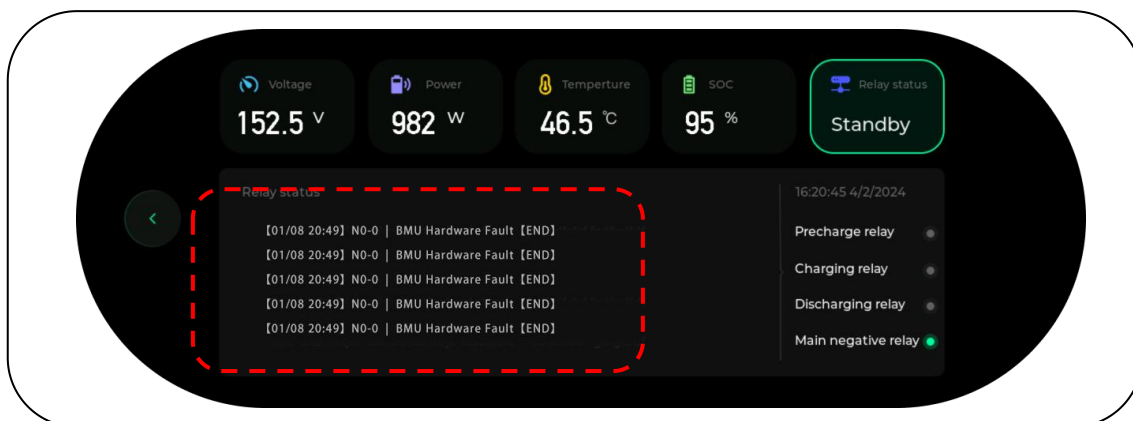

Figure 62 Alarm Options Screen Details
1) Touch the "Alarm" option in the menu bar, the display is shown in Figure 62. This feature displays current system faults and also allows you to read and view problems that have occurred in the recent operation of the battery system.